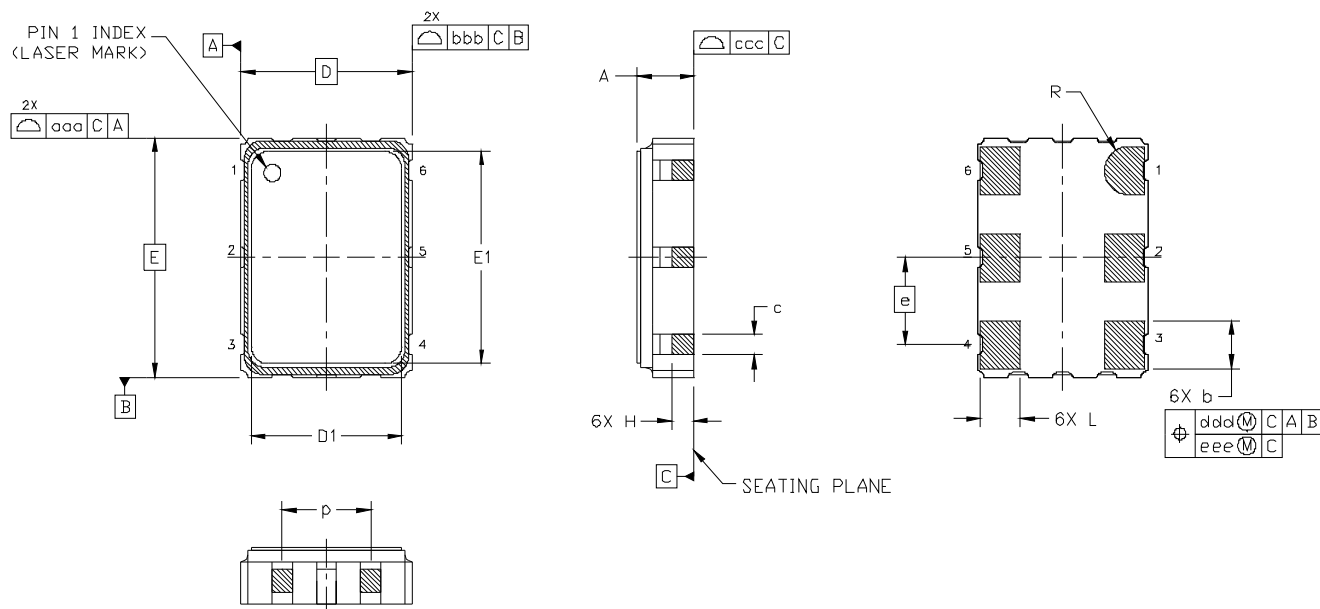

Figure 2. Si532 Outline Diagram
- Revised Figure 2 on page 8 to reflect current package outline diagram.